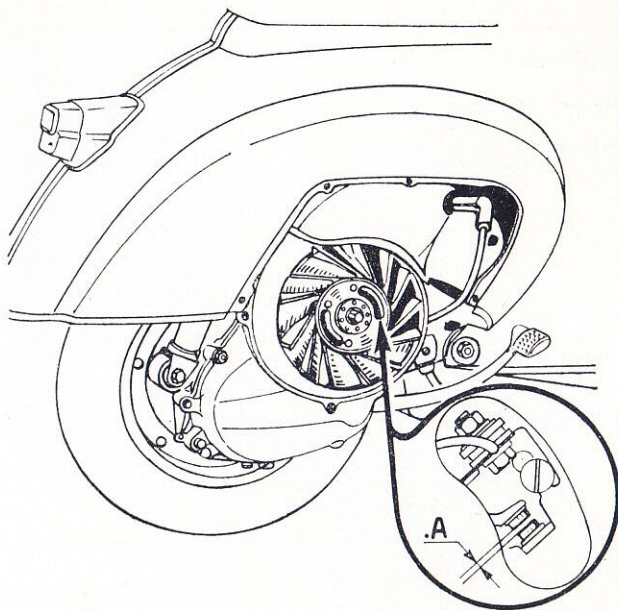

Fig. 21 – Setting contact breaker points
- (3) Remove the air filter, clean by agitating in an oil petrol bath and if possible air blast dry.
- (4) Lubricate control cables transmissions and felt lubricating pad on flywheel.
- (5) Clean, and if necessary, adjust the contact breaker points (fig. 21).